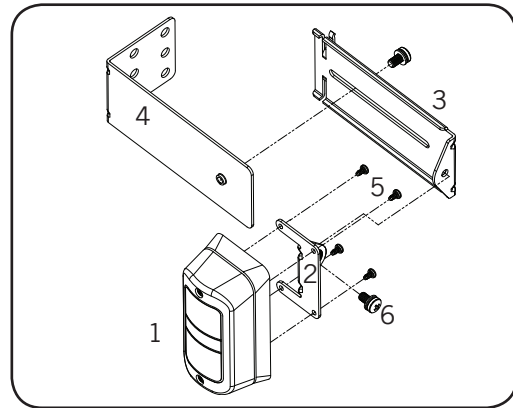

Fig. 40
- Attach the mounting bracket (4) to the adjustment bracket (3) with the pan head screw (6) (supplied) (**Fig. 40**).
- Attach the PE 2000TS bracket (2) to the Safety Infra-Red Beam transmitter (IR-200TS-TX) with four taptite screws (m3x5) and attach the other side to the adjustment bracket (3) with the pan head screw (6) (supplied).